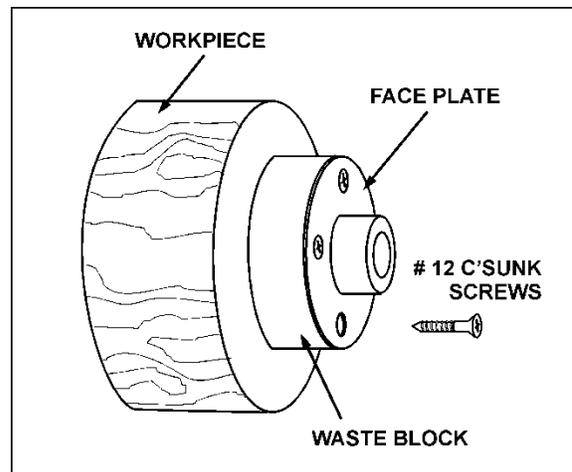

Figure 33
5. Make a block the same diameter as the face plate, Figure 33. Both waste block and workpiece should have flat surfaces for gluing.